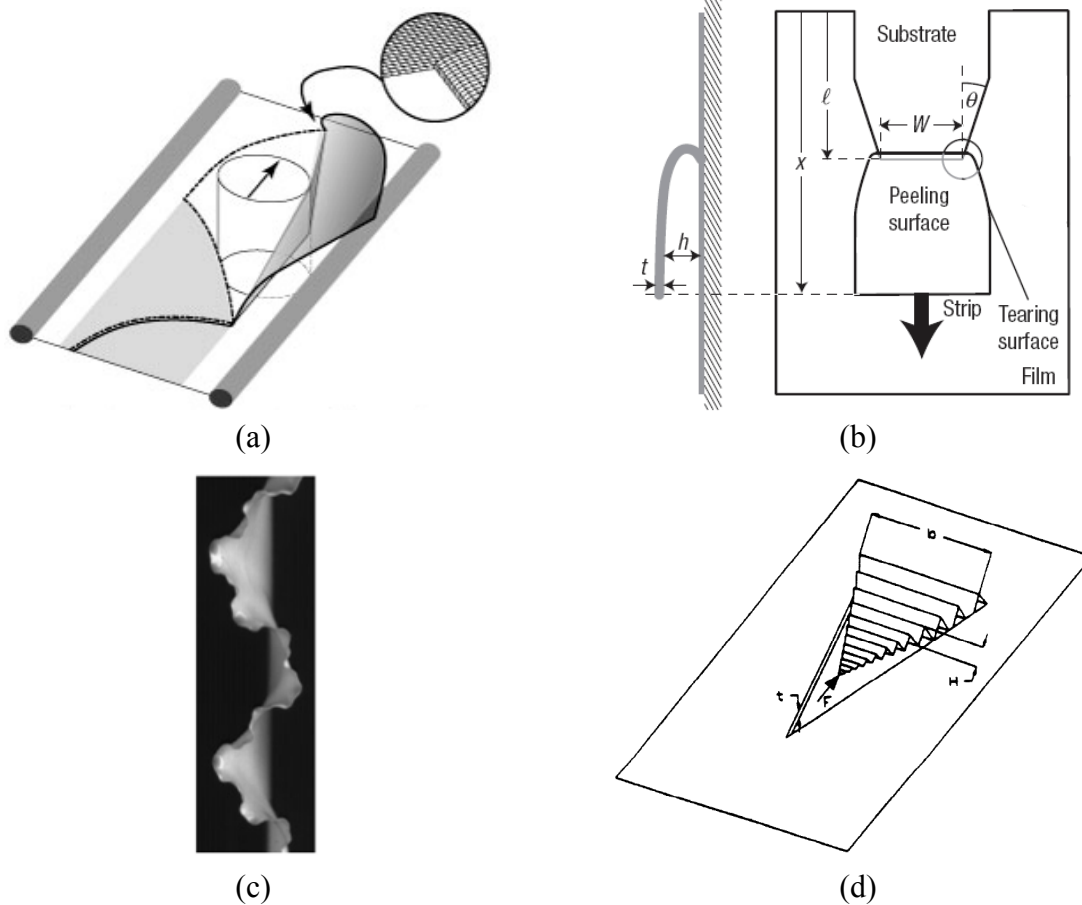

Fig. 1 : tear examples: (a) undulating, (b) converging, (c) fractal, (d) concertina.
- « undulating » (Fig. 1 (a)). An objet moving through the sheet plane creates a periodic tear.
- « converging » (Fig. 1 (b)). Two tears define a scrap with a specific geometry.
- « fractal » (Fig. 1 (c)). This type appears when the edges are highly elongated during tearing.
undulating tears appear only on sheets with very little plastic strain. Why? What is the threshold of ductility leading to non-undulating tears? On the contrary, concertina tears (Fig. 1 (d)) do not appear on purely elastic sheets. Why, and for what threshold of ductility? Where does the plasticity concentrate?